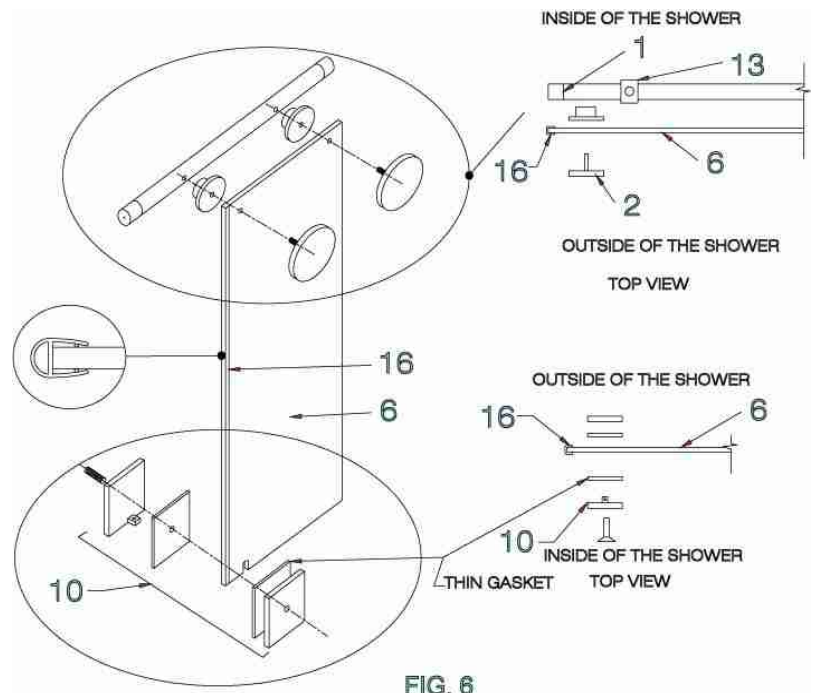
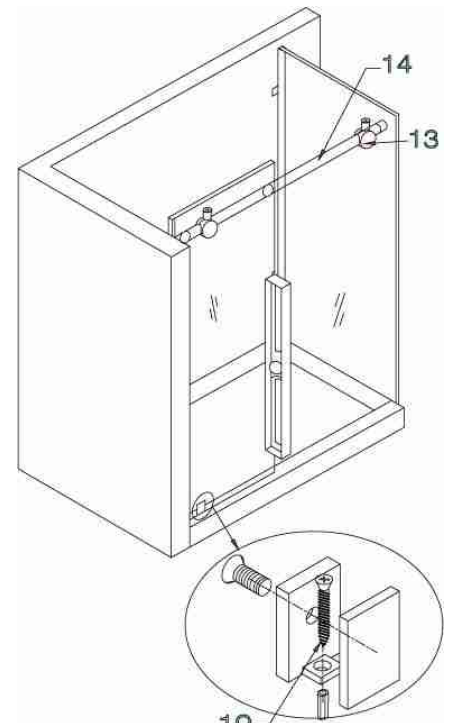

FIG. 6
FIG. 7
1. Screw the fixed panel bottom clip (#10) to the big front fixed panel (#4). Place thin gaskets on each side of the panel. [SEE FIG.6]
4. Screw the big front fixed panel to the structural rail (#14) with the fixed panel holders (#2). [SEE FIG.6 & FIG.7]
11. Screw the big front fixed panel to the structural rail with the fixed panel holders (FIG.6).